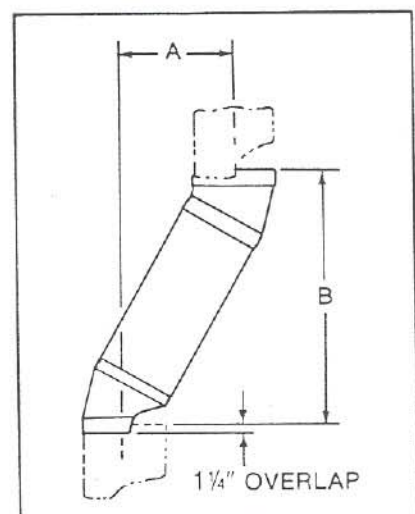

Figure 13
Figure 13 and Table 1 enable selection of the appropriate chimney components when using Offsets and Returns.
1. Determine amount of offset required to extend the chimney through a wall or around an obstacle. See Figure 13, dimension "A".